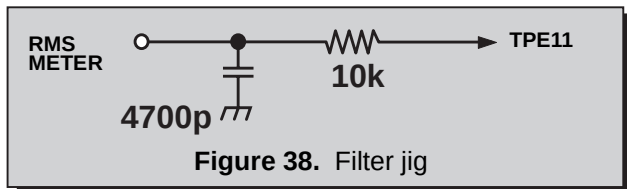

Figure 38. Filter jig
1. Connect an RMS meter with filter jig as shown in Fig. 38.